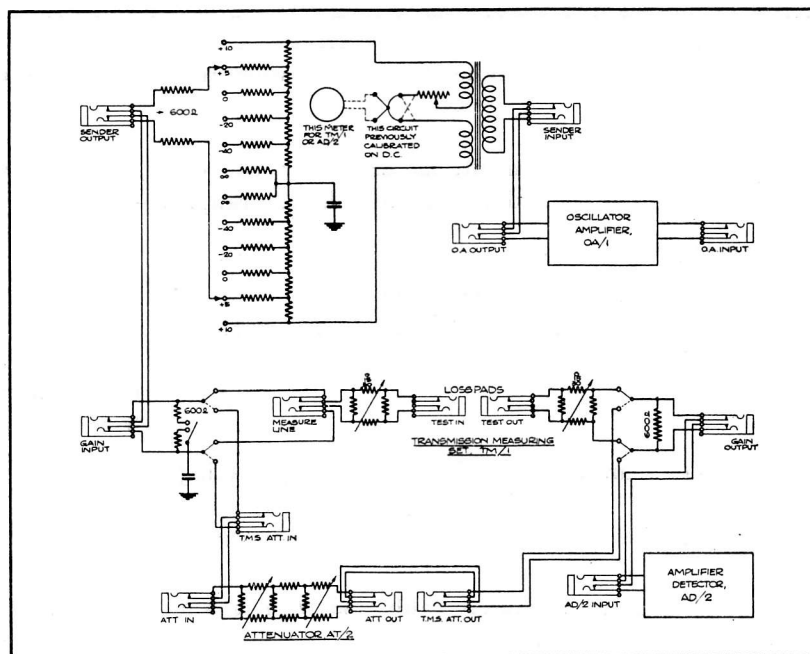

Fig. 1.
Circuit—The transmission measuring set (See Fig. 1) is made up of two distinct circuits, namely, a **sender circuit** comprising that part of the circuit included between the **Sender-Input** and **Sender-Output** jacks, and a **gain measuring circuit** comprising that part of the circuit included between the **Gain-Input** and **Gain-Output** jacks.
A. 2929, Issue 1, Fig. 1.
In this condition tone is sent (see Figure 1) via the **Sender Output** and **Gain Input** jacks, the inners of which are permanently connected, via the change-over contacts, via the **T.M.S. Att In** and **Att In** jacks, the break contacts of which are permanently connected, and via the attenuator and the **Att Out** jack to the 'B' amplifier input.
For both Loss and Gain measurements the circuit to be tested is connected between the **Test In** and **Test Out** jacks (see Figure 1) and is thus terminated by 600 ohms on both input and output sides when the **Change-over** key is operated to the **Loss Pads** position. Where either the input or output of the circuit under test is earthed on one side, the connection to the **Test In** or **Test Out** jack should be made via a shielded repeating coil, and the result obtained from the measurement should be corrected for the loss introduced by the repeating coil, which can be separately measured. The tone source is adjusted to send at the desired test frequency, which in the case of simple gain or loss measurements will normally be 1,000 c/s. The galvanometer is switched to read in the output circuit of the amplifier detector.